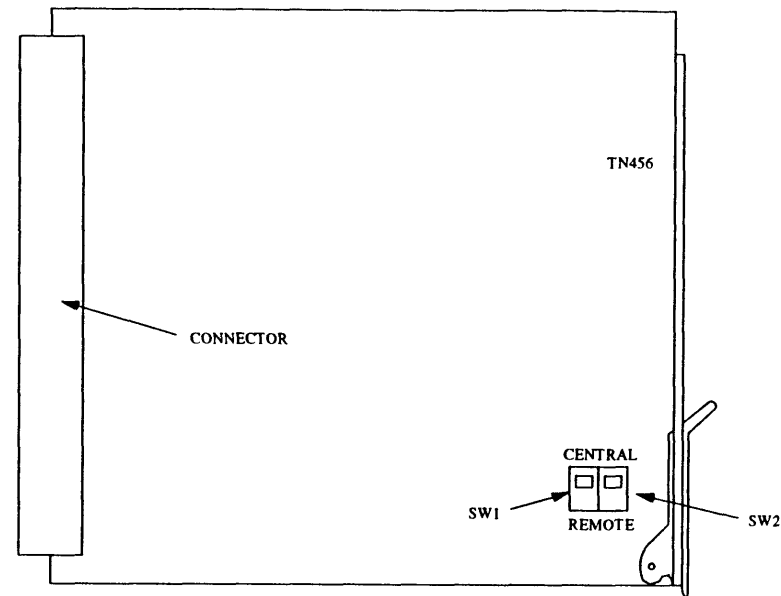

Figure 17-33. Option Switch Locations for TN456 Circuit Pack
4. Set option switches 1 and 2 (slide-type) on each TN456 circuit pack to **CENTRAL** or **REMOTE** for the location of the MC carrier where the circuit pack will be placed. Figure 17-33 shows the TN456 circuit pack and switch locations.